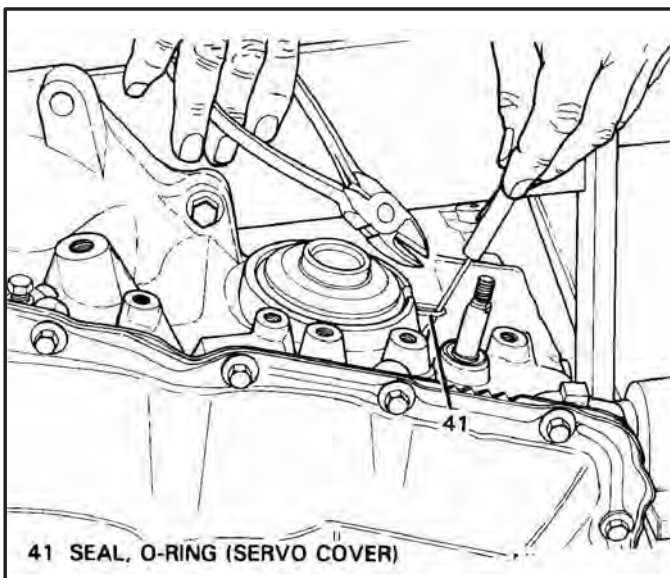

Figure 38
12. Remove the reverse servo cover "O" ring by pulling it out and cutting it with sidecutters, as shown in Figure 38.